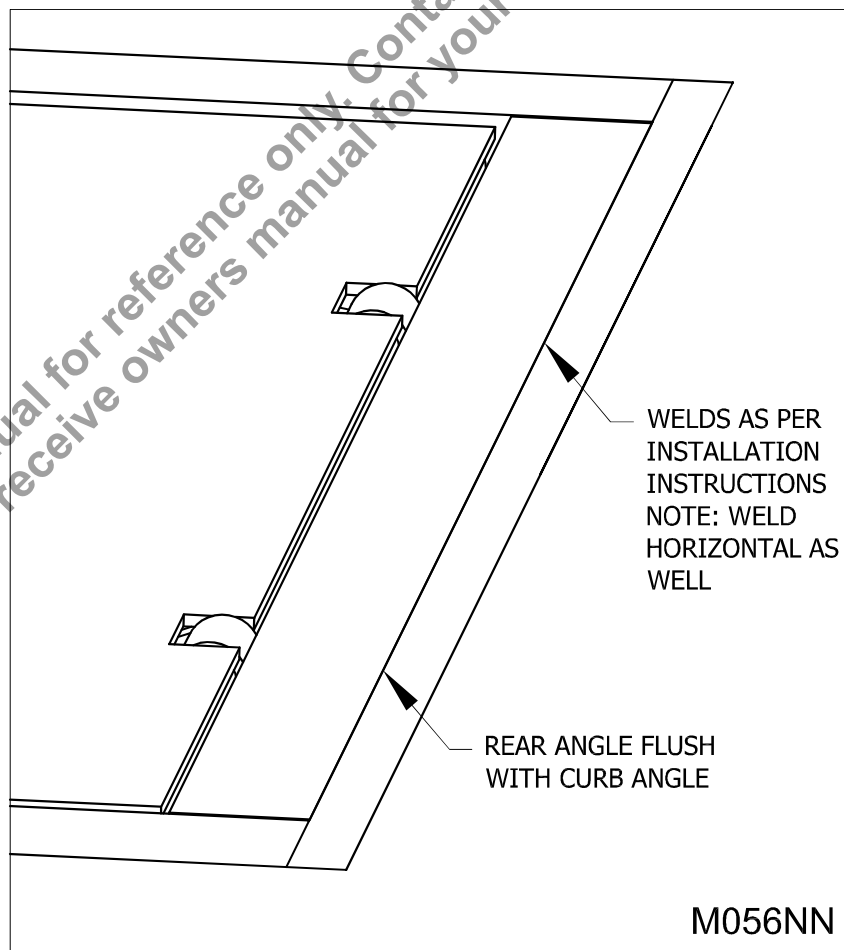

Figure 29: Rear Angle Flush with Curb Angle
5. ___ Rear angle of dock leveler in parked position showing flush and level to the floor/curb angle. (See “Figure 29: Rear Angle Flush with Curb Angle” on page 21)